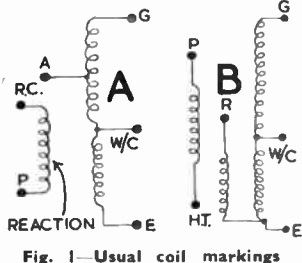
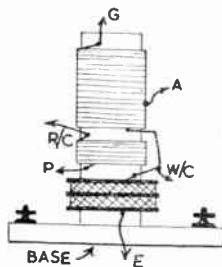

Fig. 1—Usual coil markings
Fig. 2—How windings are arranged
Some popular coils have a moulded base with small terminals. If the terminals have markings similar to those shown in Fig. 1, connexions can be identified easily. (A) shows the windings of the most popular type of coil for Long and Medium Waves, with Reaction and Aerial Tapping. Connexions are as follows: (G) to Detector Grid Condenser and Fixed Plates of Tuning Condenser; (A) to Aerial; (W/C) to Wavechange Switch; (E) to Earth; (R.C.) to Reaction Condenser, and (P) to Detector Plate. (The second terminals on both reaction condenser and wavechange switch will be connected to earth). With this type of coil no reaction will be obtained if the leads to the reaction winding are accidentally reversed.
Fig. 2 shows the way in which the majority of Long and Medium Wave Coils are wound. (If the coil has a metal screening can this should be lifted off for examination). In Fig. 2 the ends of the windings are marked to agree with (A) in Fig. 1, and are connected in the same
way. These ends will pass down inside the former and go to the various terminals. Therefore, by examining the coil in conjunction with Fig. 2, it will be possible to see which terminals form the various connexions and the terminals may be marked, or the numbers by them noted down.
Where coupling windings are included ((B), Fig. 1) these are usually wound upon a strip of insulating material which has been placed round upon the windings, shown in Fig. 2. But sometimes the winding may be on the former itself, and in each case it should be quite
To make a suitable handle for a walking stick select a suitable piece from the tip of the antler. Or a piece may be found in the centre of the branch, in which event the top will need plugging with plastic wood (see Fig. 2). Drill or